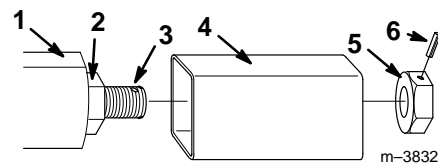

Figure 6
8. Insert the end of the boom into the adjusting chamber so that the adjustor slides through the small hole in the back of the adjusting chamber (Fig. 6).
9. From the back side of the adjusting chamber, thread the adjustment nut onto the adjustor until it is flush with the end of the adjustor and the mark you made across the two parts in step 5 lines up (Fig. 6).
10. Install the roll pin into the adjustment nut (Fig. 6).